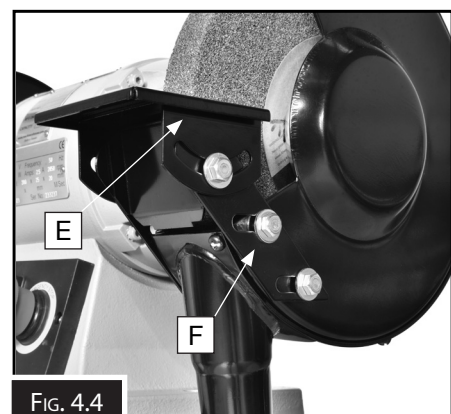

FIG. 4.4
1. Install the right tool rest bracket (F) by threading two hex head screws and two flat washers and through the tool rest bracket (F) and into the wheel housing. (Fig. 4.4)
2. Place the tool rest (E) over the bracket (F) and secure with bolts supplied, making sure that there is only a 2 mm gap between the wheel and the tool rest.